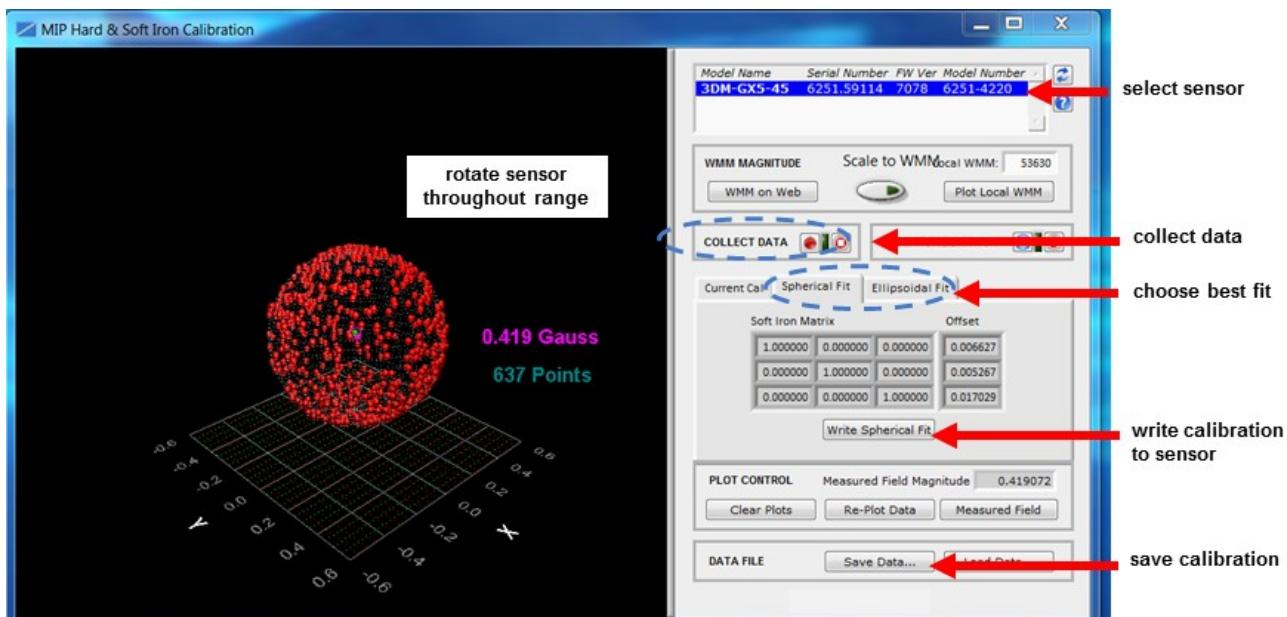

Figure 27 -Collect Calibration Data
- 6 Click the Spherical Fit or Ellipsoid Fit button, depending on the application (Figure 27 - Collect Calibration Data ). Spherical Fit is often best for applications with calibration rotations restricted to a 2D plane: for example, a ground vehicle or a boat, because it will not likely not be rotated on all three axis. Ellipsoid Fit is generally a better correction when soft iron effects are present but only if enough data points can be collected in all